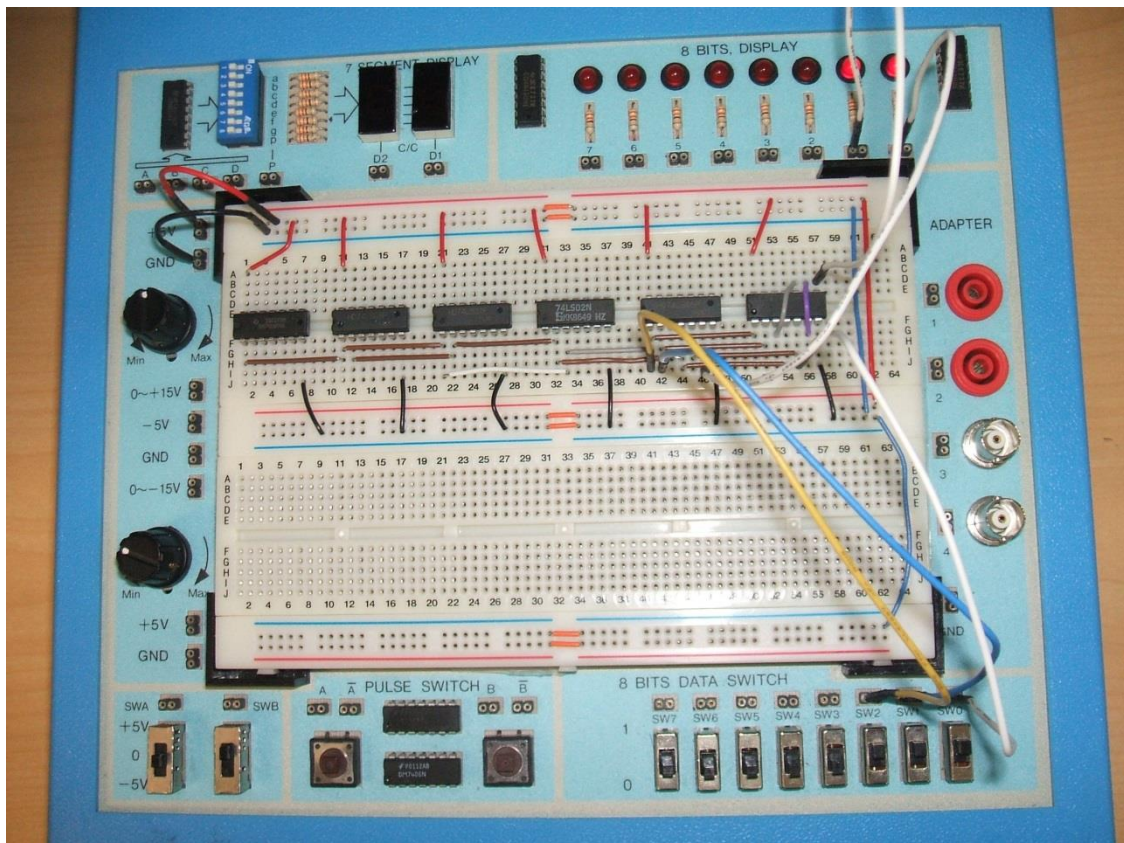

Figure 2 – Full-Adder layout and connectivity on IDL-800.
- Construct the circuit using available gates in the SN74LS00 and SN74LS86 chips. Figure 2 shows a typical wiring layout for this circuit.